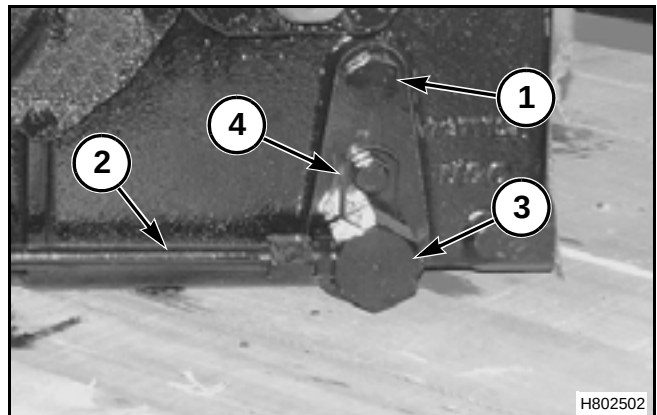

FIG. 84
FIG. 84: Check oil level in the transmission housing and check breather every 250 hours. Clean the dirt from around the oil fill plug (1) and remove the plug to check the oil level. The level must be maintained up to the bottom of the oil fill plug hole.